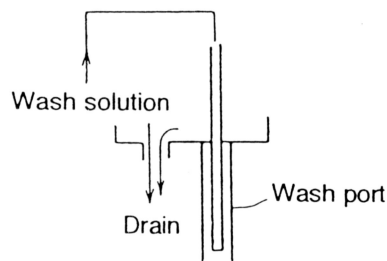

Figure 3-4 Full Loop Injection Method of a Sample
1. Maximum Injection Volume: The following expression shows how the injection volume depends on the feed volume when you employ the full loop injection method. (Refer to Figure 3-4).
3. Full Loop Injection Method Figure 3-4 shows the full loop injection method. This method provides the best repeatability of sample injection volume in an analysis.